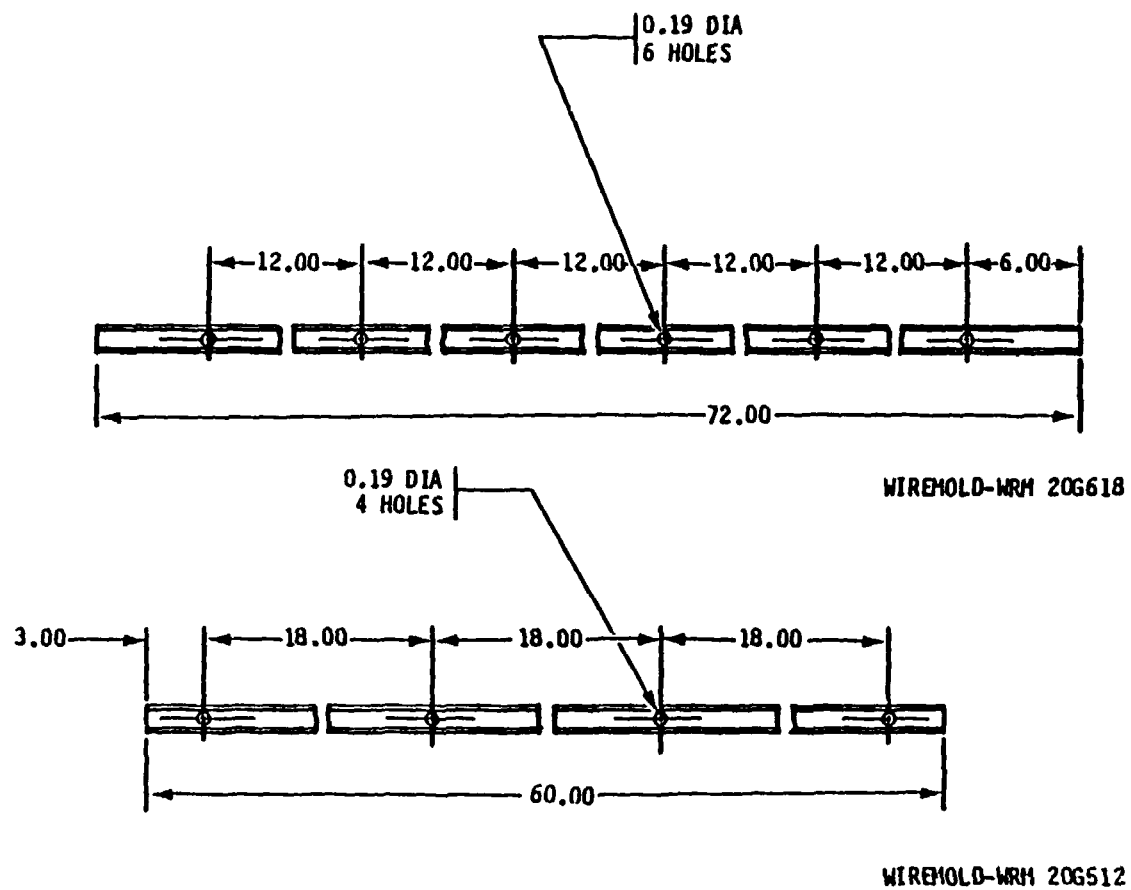

Figure 8. Wiremold Base Mounting Hole Locations.
(12) Remove wiremold covers (one each from WRM 20G512 and WRM 20G618) ; mark and drill ten 0.19-in. diameter holes in wiremold bases in accordance with figure 8. Hole locations may have to be changed to avoid mounting screws touching receptacles.